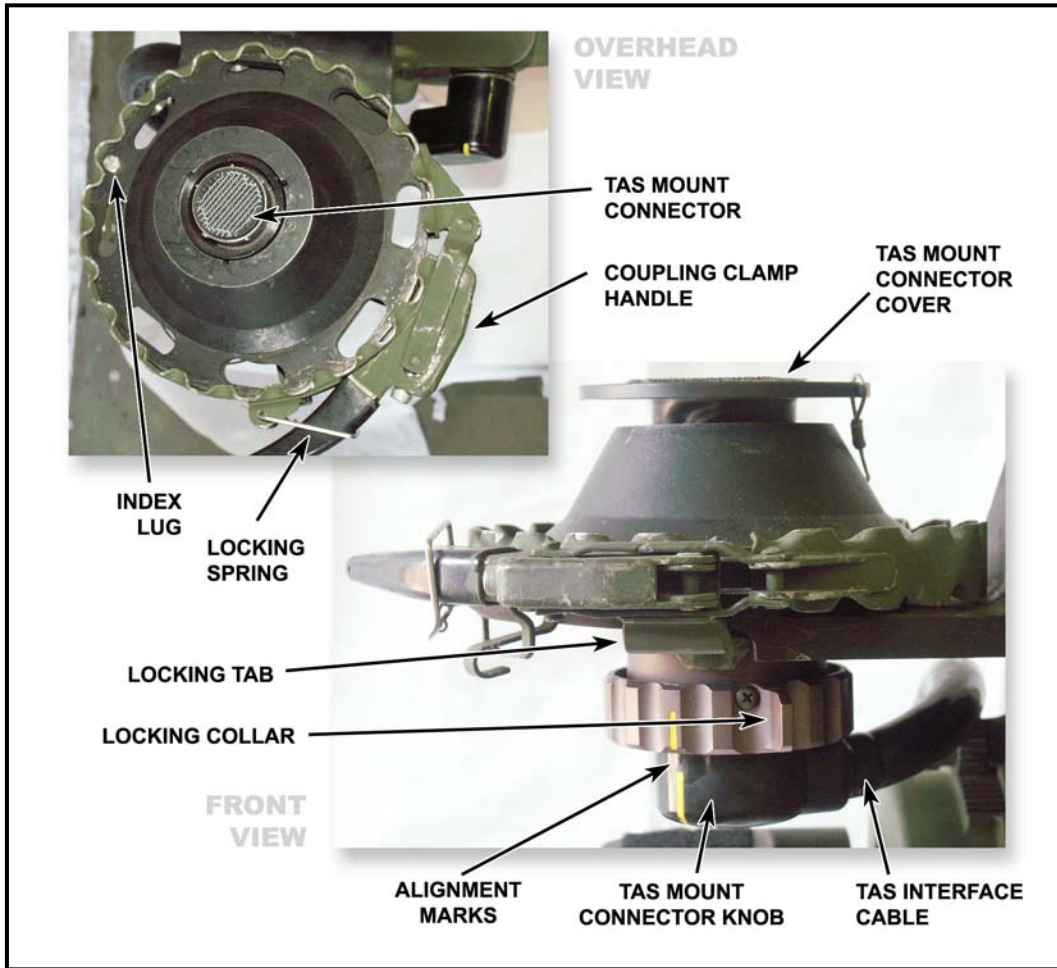

Figure 1-10. TAS mount components.
(7) **TAS Mount.** The TAS mount provides mechanical and electrical connection of the TAS to the TU (Figure 1-10, page 1-12). The TAS mount components are: